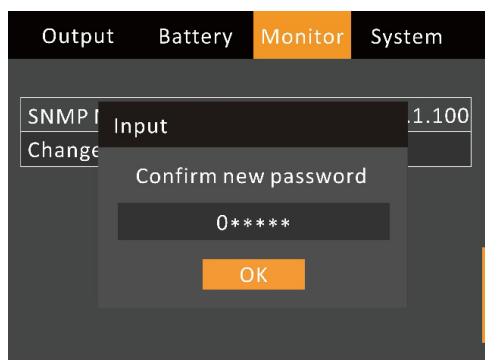

Figure 3-22 Confirming new password
5. After inputting the new password, press the key to confirm it, then the system requires to confirm the new password, see Figure 3-22.